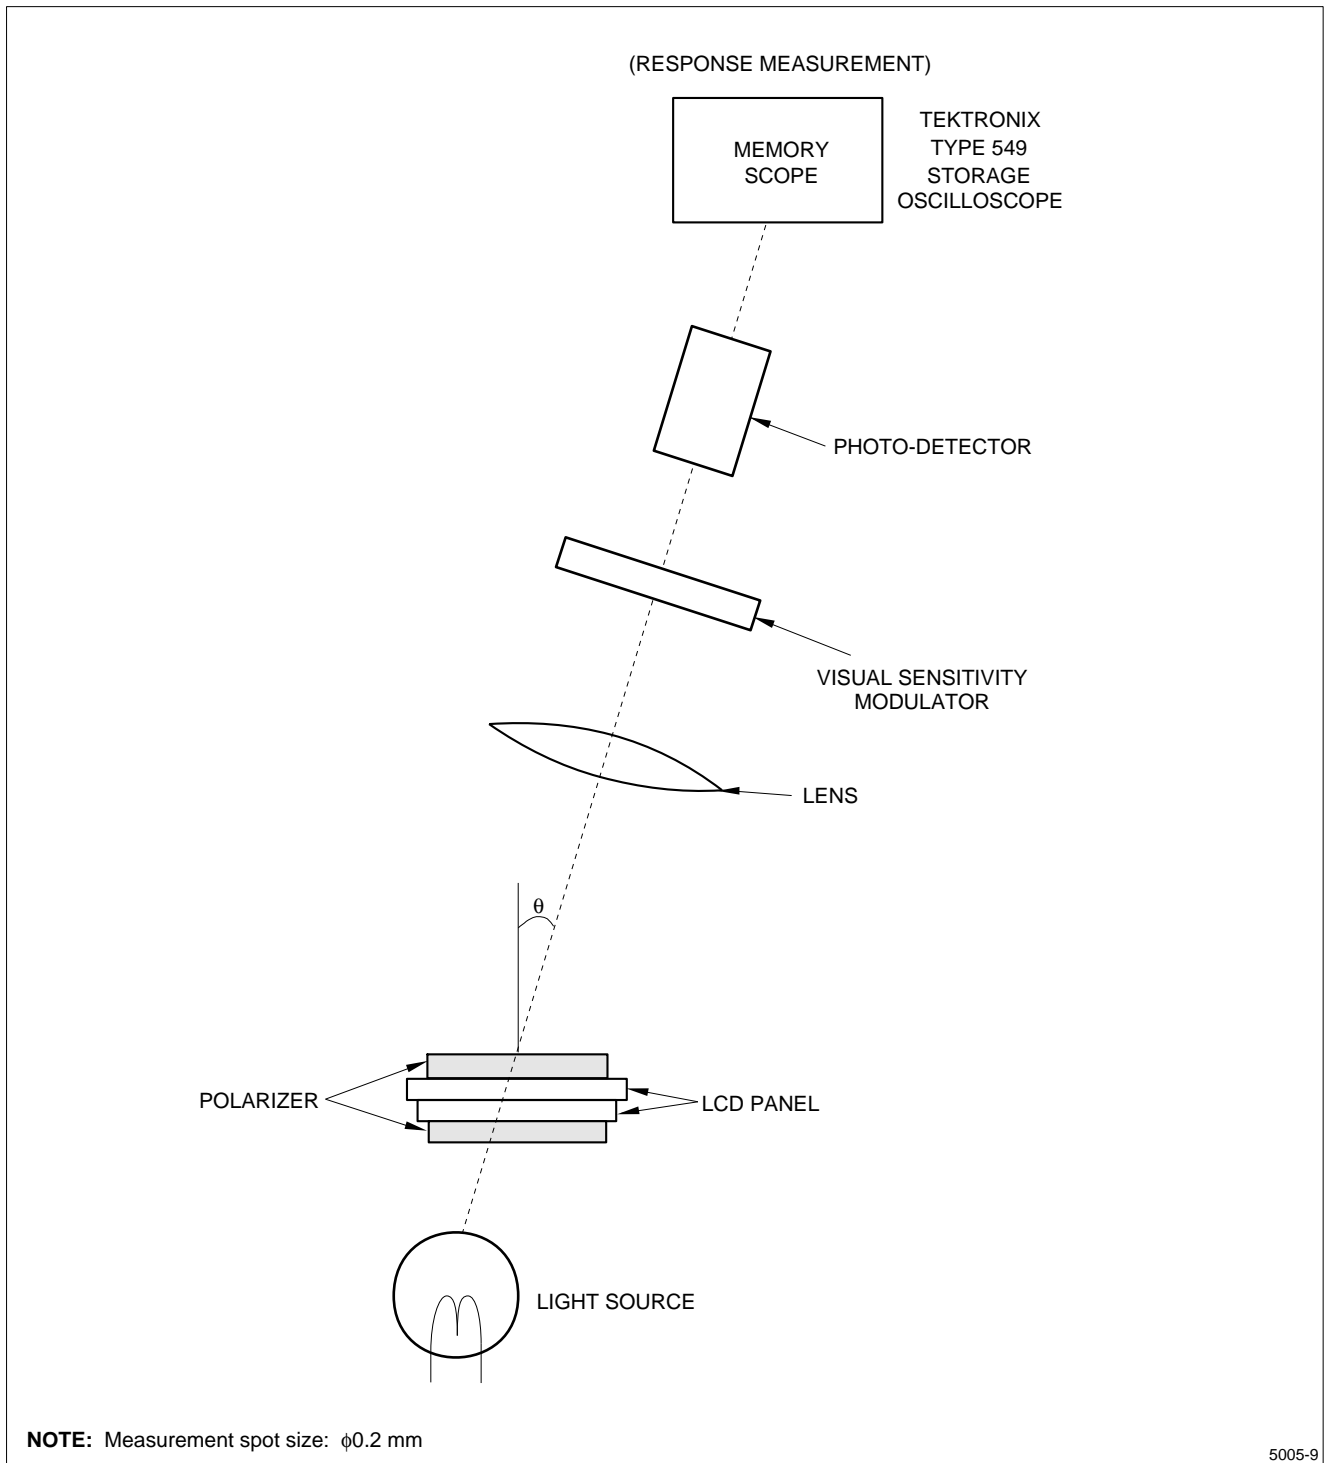
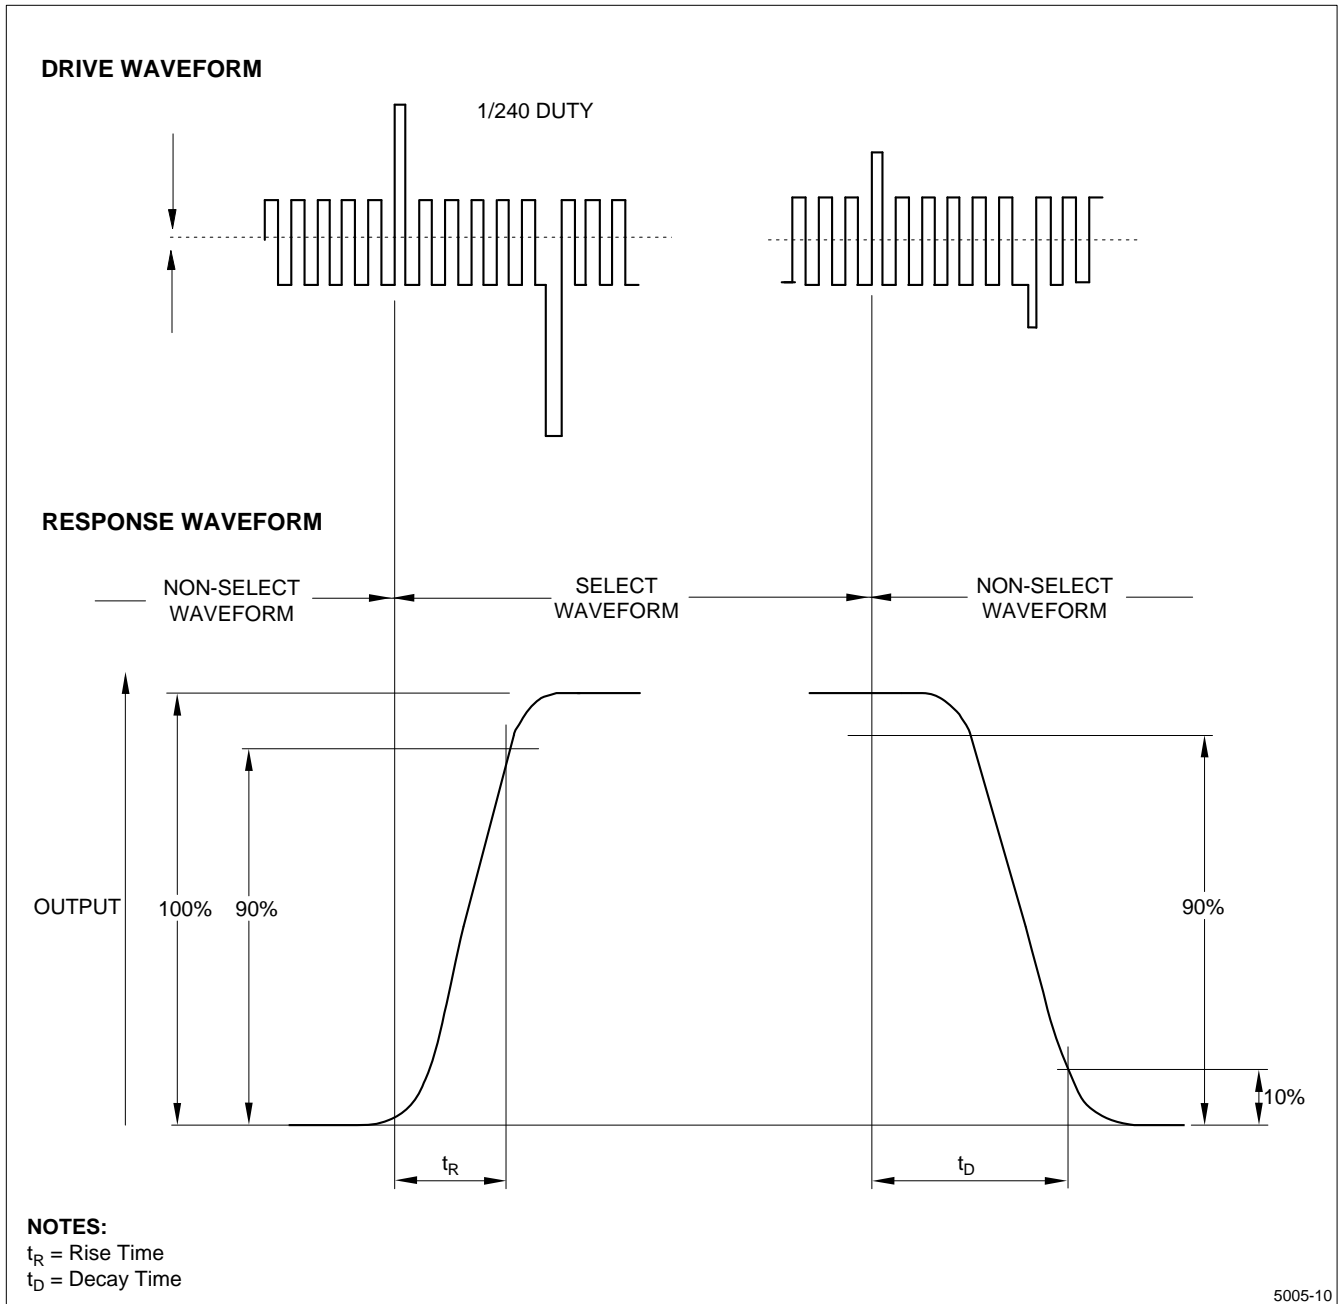

Figure 10. Optical Characteristics Test Method II
Figure 11. Definition of Response Time
- The response characteristics of photo-detector output are measured as shown in Figure 10, assuming that input signals are applied so as to select and deselect the dots to be measured and in the Optical Characteristics Test Method shown in Figure 11.